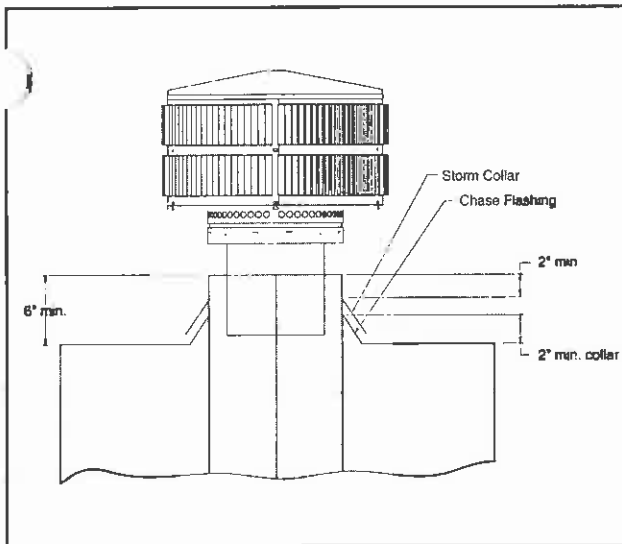

Figure 20 - Installing a TR11 Round Termination Cap
- a. Install the chimney sections up through the chase enclosure. When using a TR11 round termination cap, the uppermost top section of pipe must extend 6" above the top of the chase collar to allow installation of the storm collar and termination cap. See Figure 20.